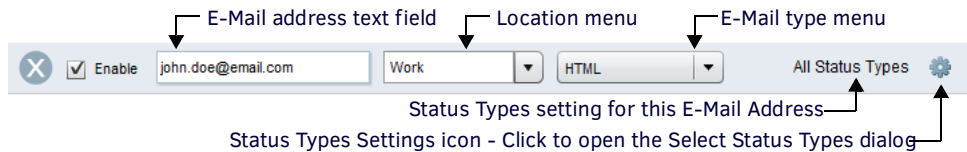

FIG. 308 E-Mail User Contact Information
- a. Enter the user's E-Mail address in an empty **E-Mail** text field (FIG. 308):